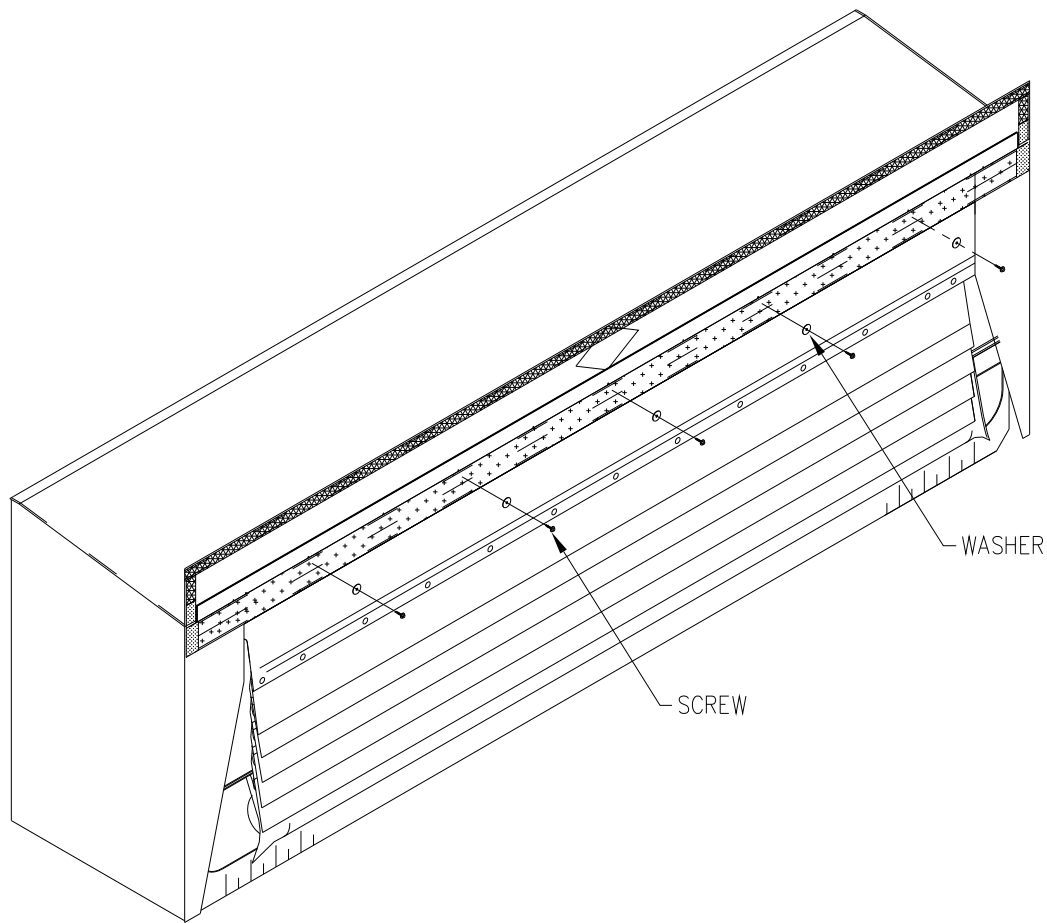

FIGURE 23
8. Attach the impact plate assembly to the front bar in (5) locations using the self drill/tapping screws and panel washers provided. Start at the center, then 24" and 48" in both directions, approximately 3/4" down from velcro edge on pocket. The screws should land just above the middle of the front bar. There are small fabrics tabs located above the velcro edge on the impact plate assembly indicating the fastener locations. (See Figures 23 & 24)